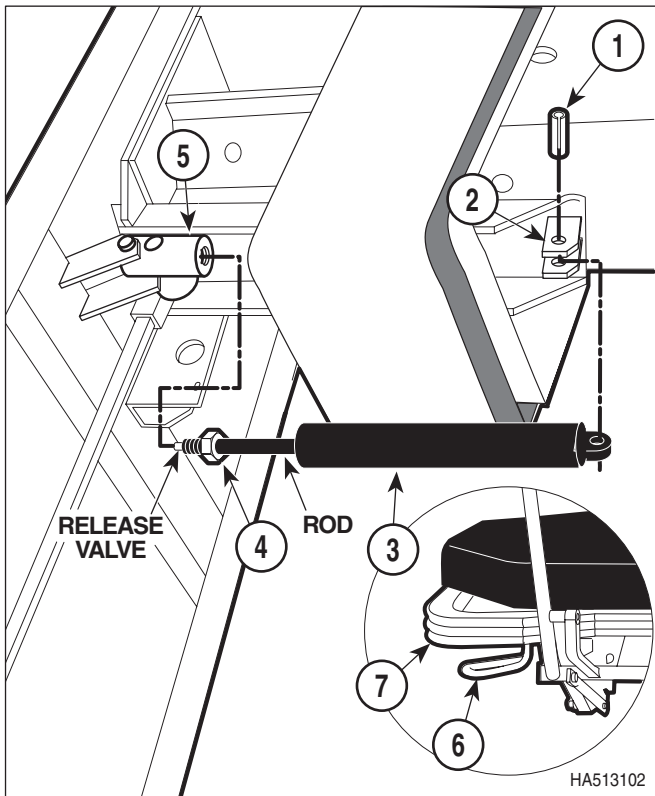

Figure 4-21. Trendelenburg Gas Spring Removal / Installation (540, 545, 550, and 555 only)
- (2) Lower *and* raise bellows for access *or* lower and raise column covers for access (Refer to para 4.3 or 4.3.1).
- (3) Depress a caster control pedal to the "brake" position.
- (4) Drive spiral pin (1, Figure 4-21) out of pivot plate (2) and separate bottom of Trendelenburg gas spring (3) from pivot plate.
- (5) Loosen jam nut (4).